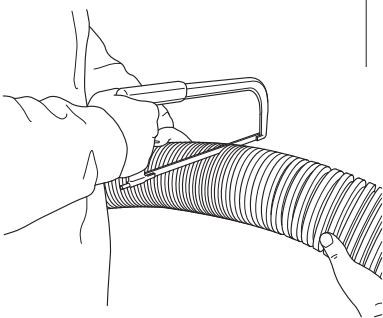

Fig. 31
14. Cut the excess concentric ducts to leave approximately 300 to 500mm protruding from the chimney and pass the square closure plate over the air duct (Figs. 31 & 32).